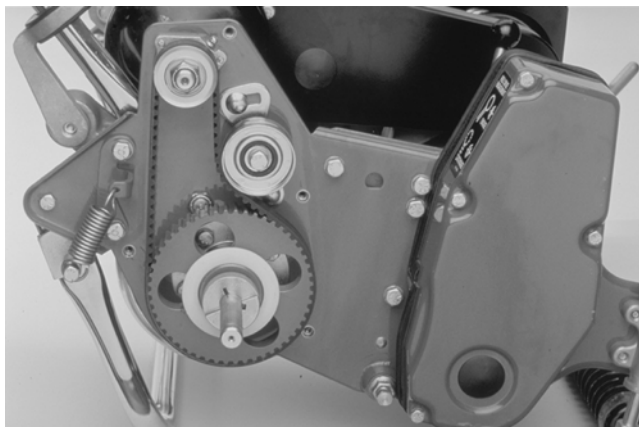

Figure 49
2. Remove both drum drive covers using a 7/16-inch socket to remove the four cap screws and lock washers from each cover (Fig. 49).